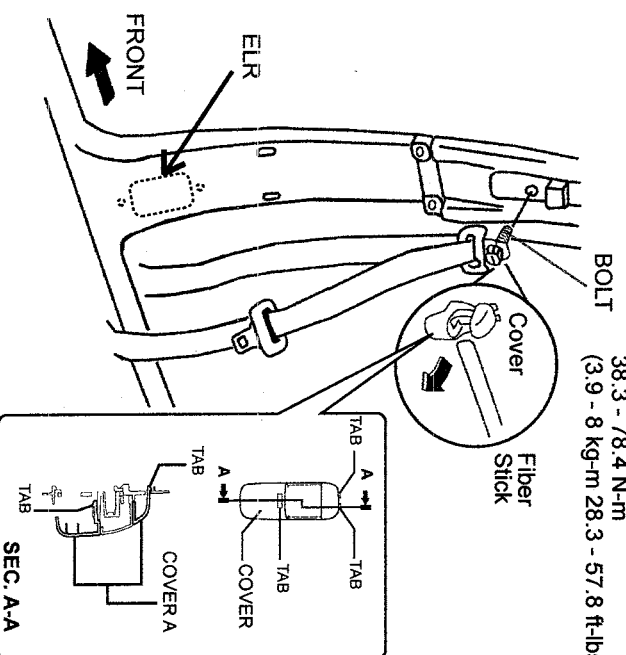

FIGURE 34
- 1.) USE A FIBER STICK TO REMOVE THE BOLT COVER. THERE ARE THREE TABS SECURING THE BOLT COVER IN PLACE. (SEE FIGURE 34 AND SEC. A-A)